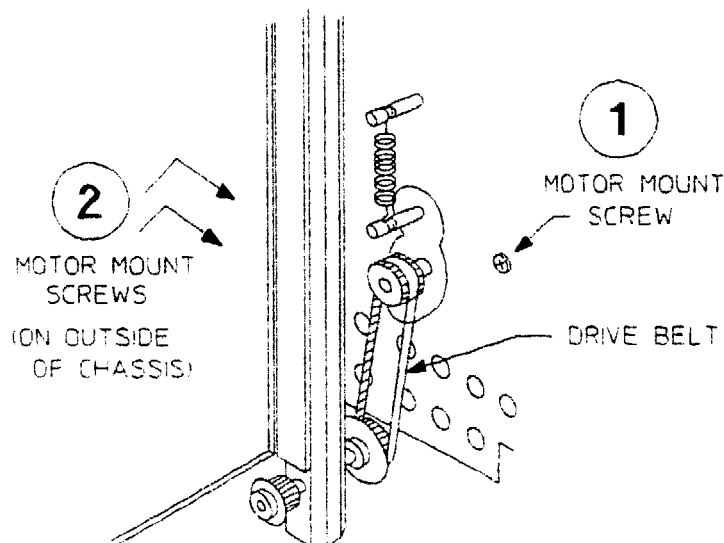
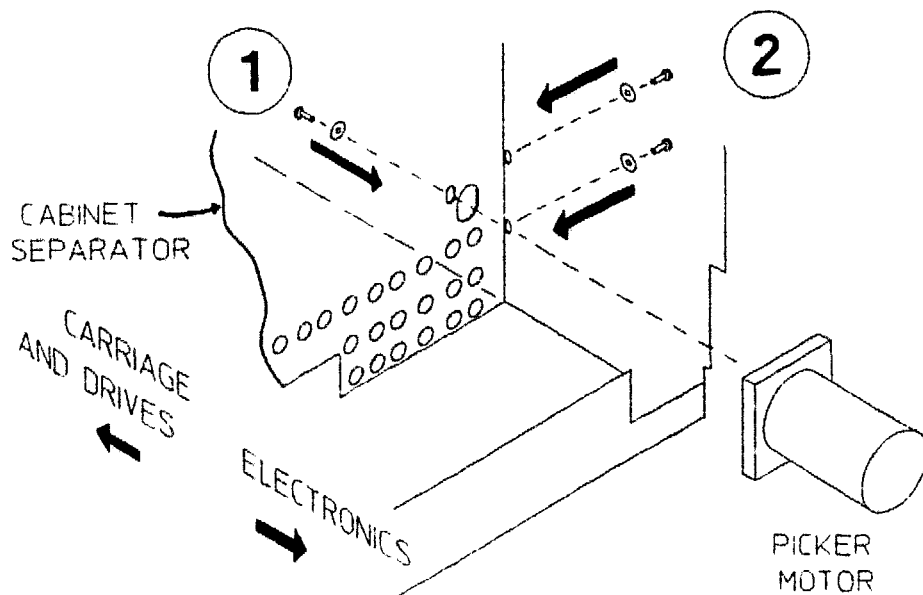

Figure 8-69. Picker Motor Mounting Screws and Drive Belt
Figure 8-70. Picker Motor Mounting Screws
Refer to Figure 8-69 and Figure 8-70.
3. Loosen the tensioner spring (see Figure 8-69).
4. LOOSEN the motor mount screw on the inside of the electronics area (Figure 8-70 (1)) and the two mounting screws on the outside of the chassis (Figure 8-70 (2)). Do not remove the screws.
2. Replace the Picker Belt. Tighten the screw located behind the Carriage Leadscrew (Figure 8-70 (1)).
3. Tighten the two remaining screws (Figure 8-70 (2)).